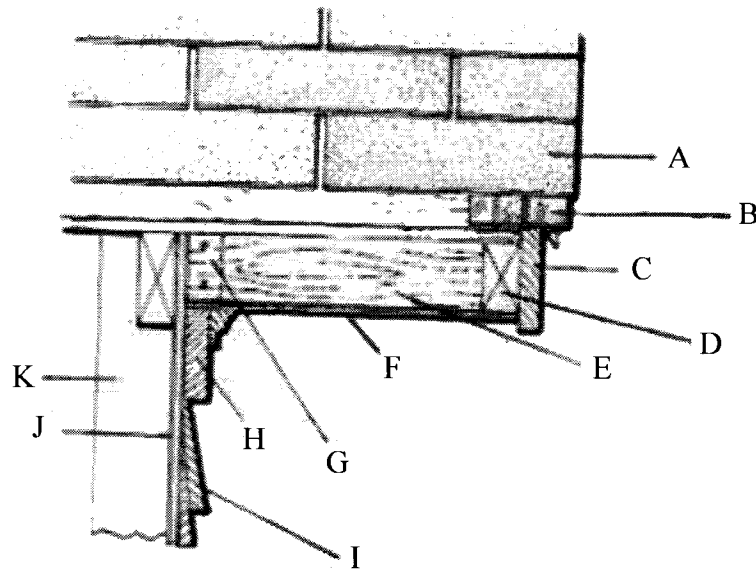

Figure 5
- (b) Figure 5 below shows a sectional drawing of a roof over-hang of a building.